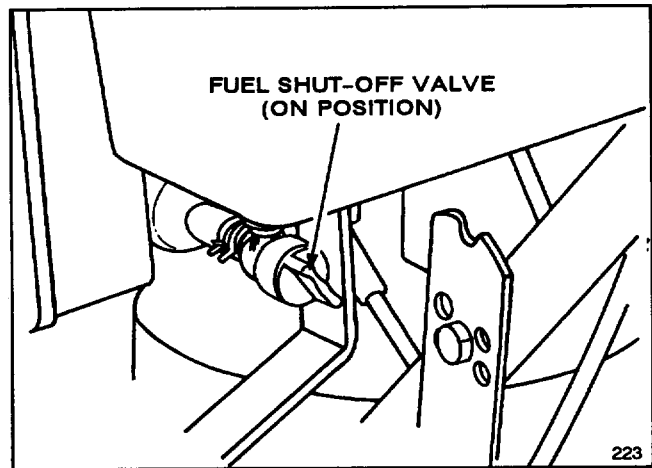

Figure 6
3. Turn fuel shut-off valve to ON position (Fig. 6).